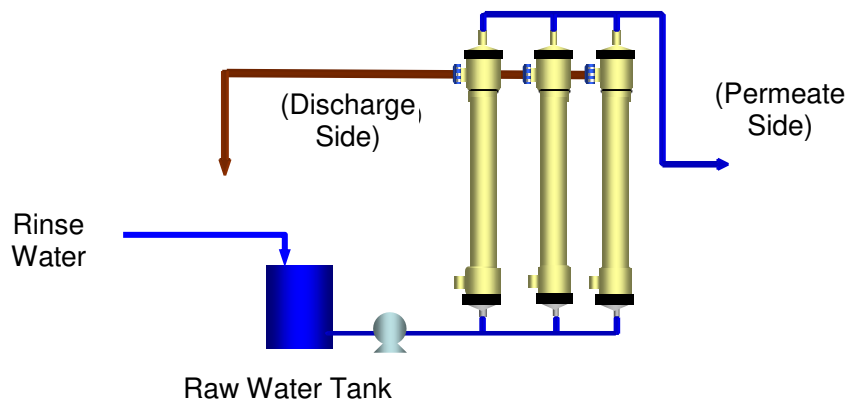

Figure 2 Example 2 of Rinsing Out the Preservative Solution of the UNA series Modules
- (1) Install the modules in the unit.
- (2) Feed rinse water to the raw water tank.
- (3) As illustrated in Fig.2, continuously feed rinse water to the modules with the water being discharged from the retentate and permeate outlets.
- (4) Completion of rinsing is determined by measuring the Ca concentration or the hardness. Alternatively, rinse completion may be determined by observing the conductivity difference between the rinse water and permeate.
- (5) Perform ordinary filtration upon completion of rinsing.